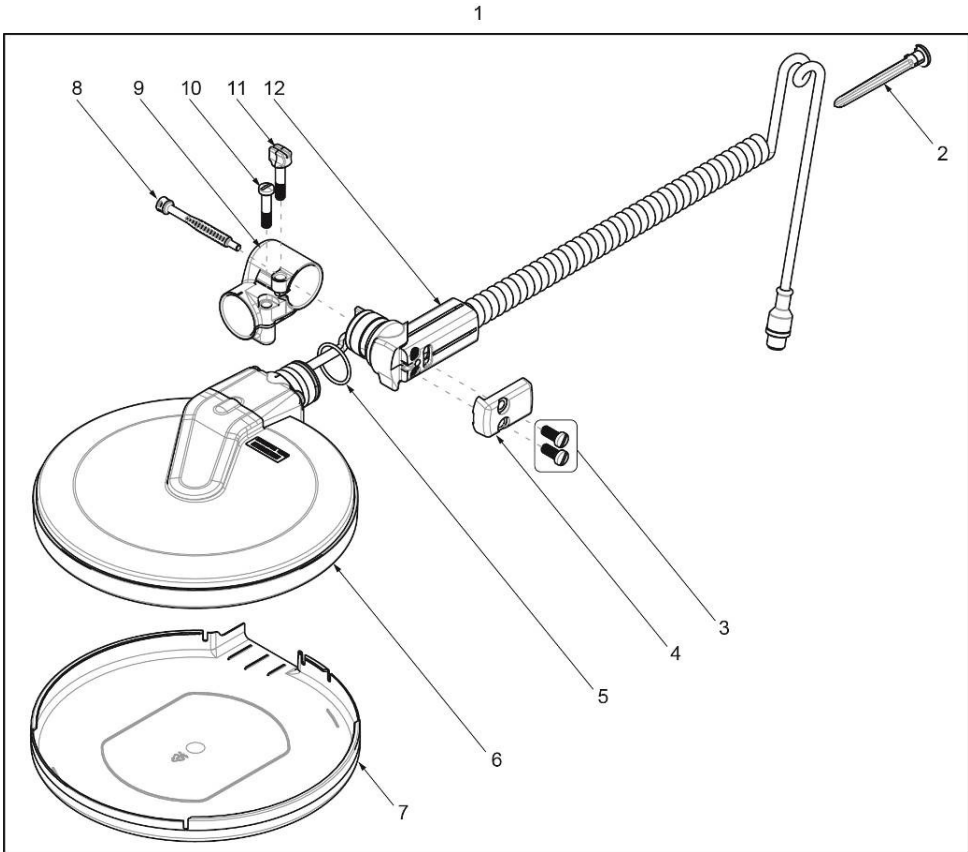

Figure 47: Parts of the Coil
a. The coil is a line replaceable unit and Figure 47 illustrates the major parts of the coil. 3004-0044 Coil Kit, is a service kit containing the coil and associated parts. All parts are available individually.